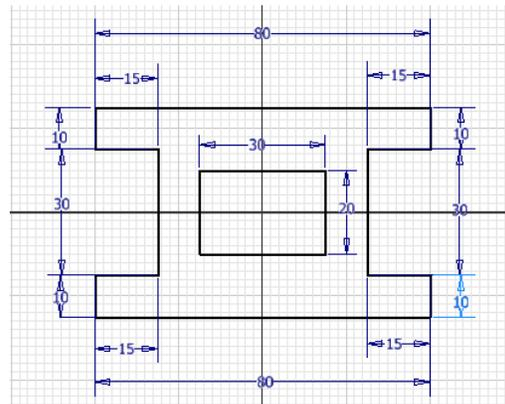

Figure 2-69 Completed sketch for Tutorial 2
- Draw the inner closed loop by using the Dynamic Input method, refer to Figure 2-69.
21. Next, right-click on the graphics window; a Marking Menu is displayed. Choose **Cancel (ESC)** from the Marking Menu; the sketch is created, as shown in Figure 2-69.